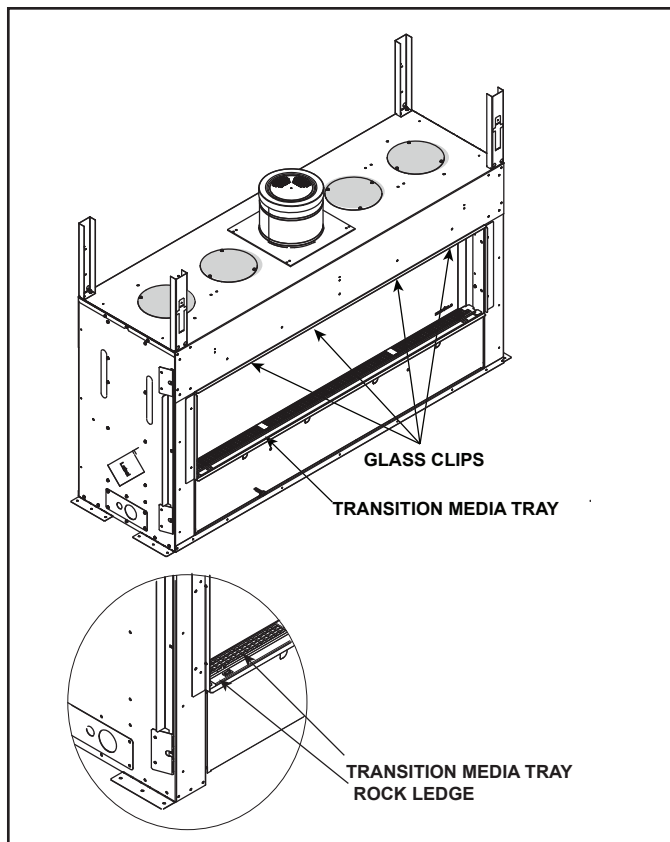

Figure 4.4 Location of Glass Clips and Transition Media Tray
1. Remove the transition media from the appliance. Lift the transition media tray out of appliance. Disconnect the wires that are connected to the reset switch. The transition media tray fits tightly, lift carefully. See Figure 4.4.
2. Locate the glass clips that are on the upper edge of the glass frame of the appliance. See Figure 4.4.